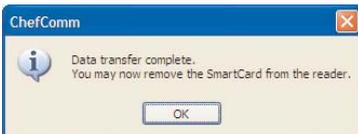

Figure 31: Data Transfer Complete
6. Click **OK** to acknowledge the import was successful (Figure 31).
7. Click **OK** to acknowledge that the export was successful (Figure 31).
5. Click OK to acknowledge that the import was successful (Figure 31, page 10).
6. Click OK to acknowledge that the export was successful (Figure 31, page 10).